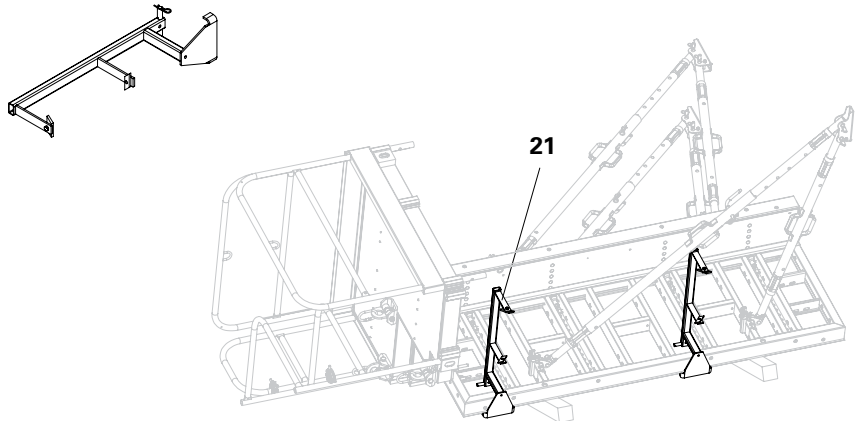
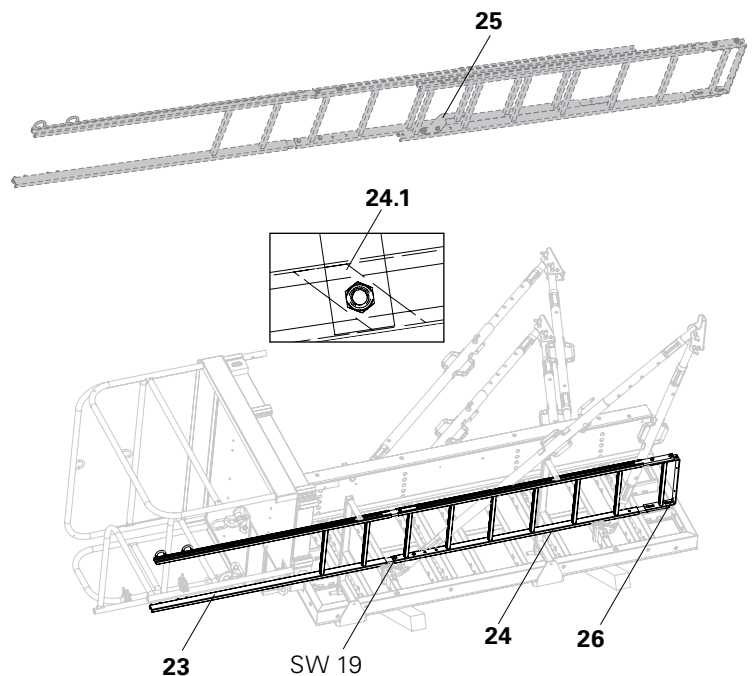

Fig. A3.06
Fig. A3.07
1. Place Ladder Connector TRIO (21) on the frame and fix by means of bolting to the panel strut. (Fig. A3.06)
- Connect End Ladder 180/2 (23) to Ladder 180/6 (24), (SW 19). Depending on the height, mount additional Ladders 180/6.
- Mount Ladder Base (26) and Ladder Hook (25) to the bottom Ladder, (SW 19). (Fig. A3.07)